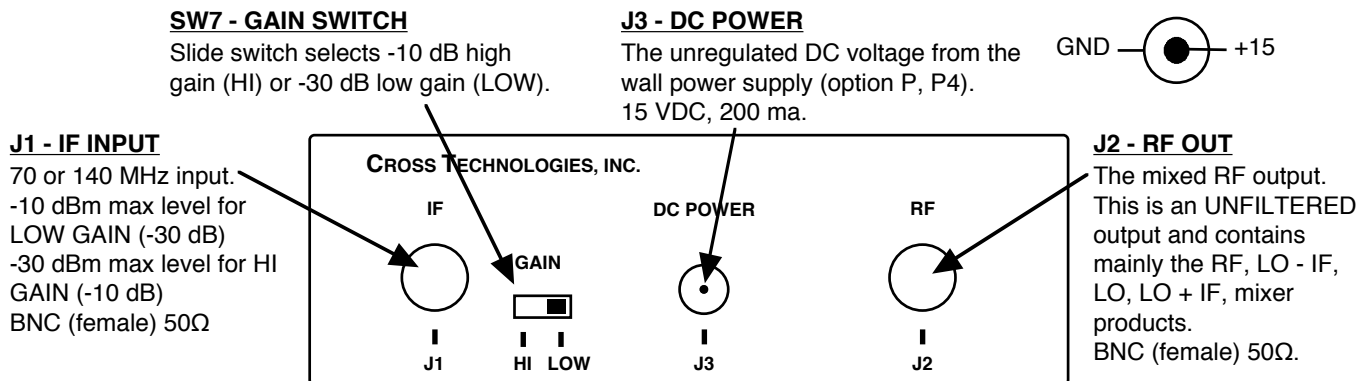

FIGURE 2.2 2005-10 Rear Panel Inputs and Outputs
2.3 Rear Panel Input/Output Signals - Figure 2.2 shows the input and output signals to the 2005-10.
1. If using the receiver LNB voltage to power the 2005-10, be sure +14 to +24 VDC is on the RF center conductor. If using the wall power supply (**options -P or -P4**), connect the power supply to the DC POWER connector and either 120 VAC (**-P**) or 100-240 $\pm 10\%$ VAC (**-P4**) (Figure 2.2)
3. Select either HI or LOW GAIN using the switch (SW7) on the rear panel (Figure 2.2).
4. Connect a -10dBm max (LOW GAIN) or -25 dBm max (HI GAIN) signal to IF In, J1 (Figure 2.2).
5. Connect the RF OUT, J2, to the receiver under test (Figure 2.2).